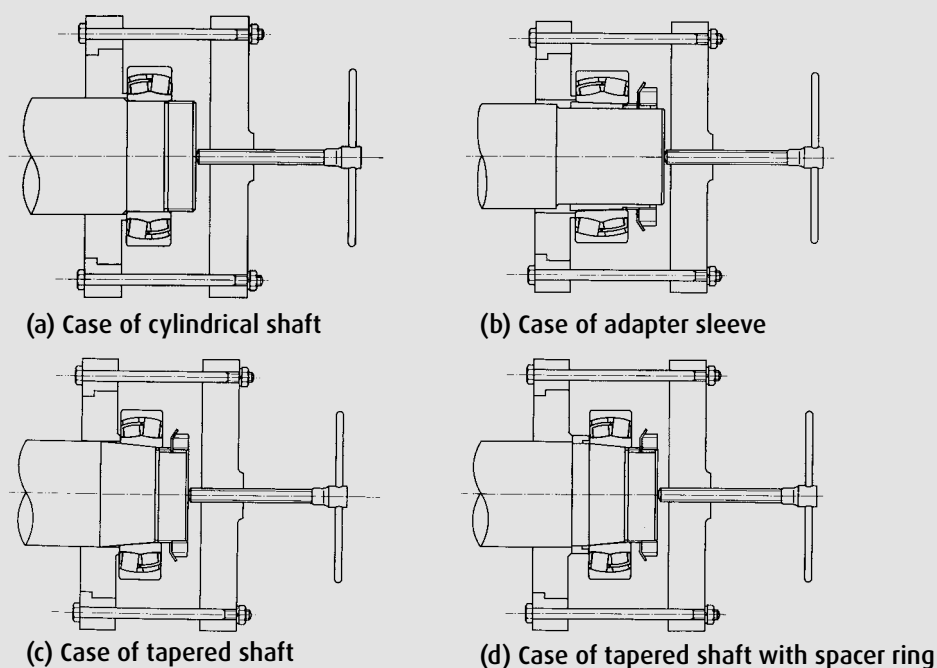

Fig. 7.3 Method to use special puller
7.2.1 How to Use the Special Puller (Fig. 7.3)